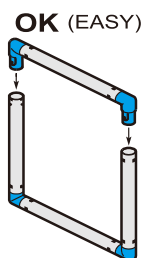

Fig. 3-1
- (2) Finish the assembly of both connectors with the tube in between. Then insert the connectors into two separate tubes to complete a panel. (Fig. 3-1)